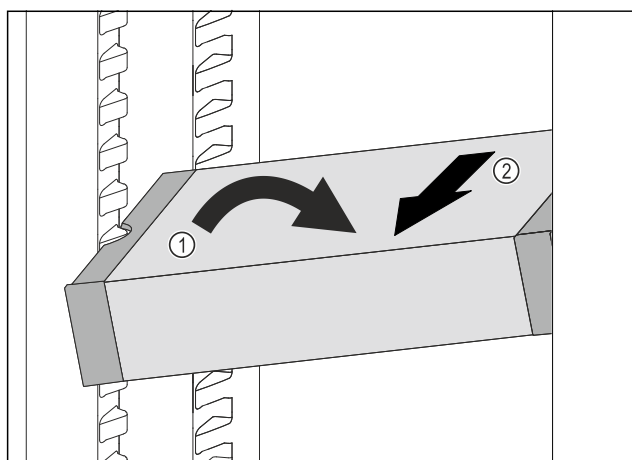

Fig. 88
- Set VarioSafe in refrigerator compartment at an angle. Fig. 88 (1)
- Take VarioSafe out to the front. Fig. 88 (2)